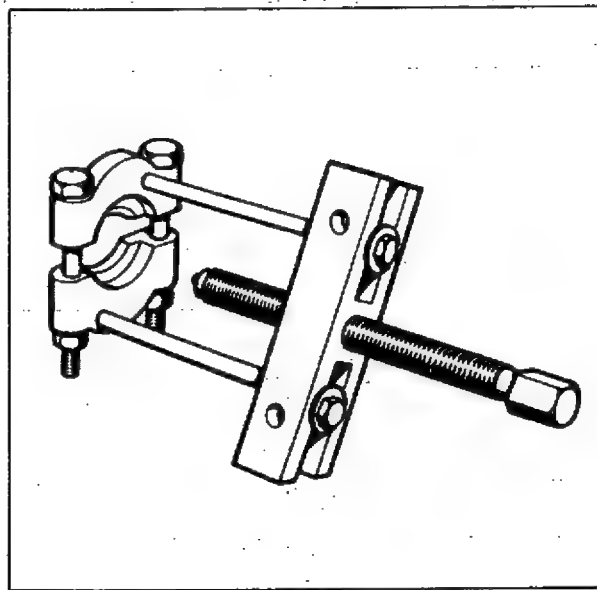

Fig. 49 – Sykes type race puller.
11. Using extractor shown in Fig. 49 withdraw the slip ring assembly. Removal of the slip ring will render it unserviceable and a new one must be fitted.